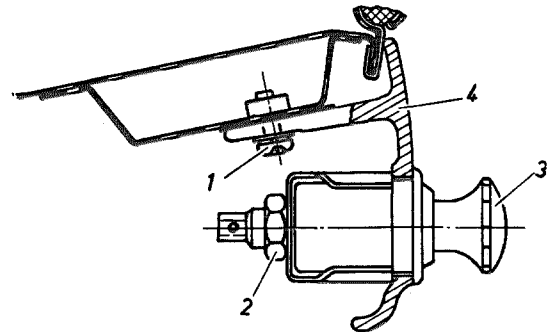

Fig. 46—8/2
6. Unscrew from below the three screws (1) of the attaching plate (4) for the control knobs and pull the attaching plate (4) slightly toward the steering wheel (Fig. 46—8/2).